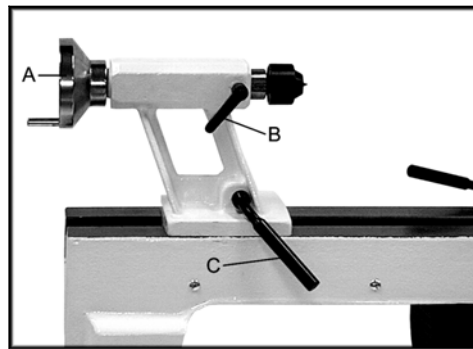

Figure 2
**Tailstock Handwheel (A, Figure 2)** - Turn clockwise to move tailstock spindle forward. Turn counter-clockwise to retract tailstock spindle.
**Tailstock Spindle Lock (B, Figure 2)** - Locks tailstock spindle. Release to adjust with handwheel.
**Tailstock Lock (C, Figure 2)** - Locks tailstock in position on the bed. Release to move tailstock assembly closer to or farther from the headstock.